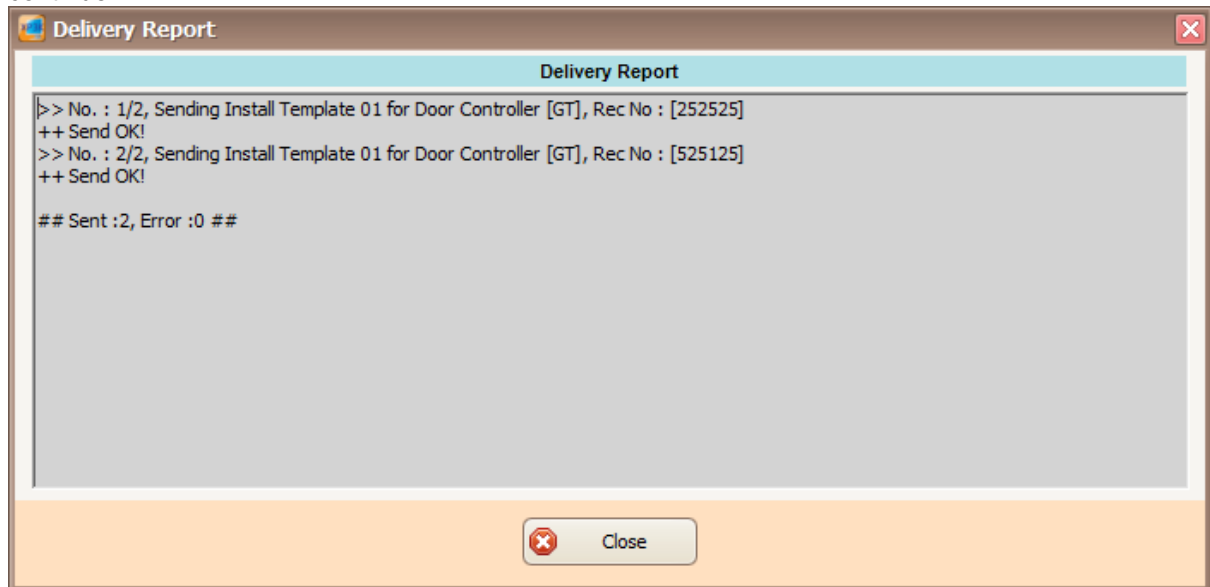

Figure 252 - Delivery Report to Install Template
3. A Delivery Report window will be shown to display the data (Refer **Figure 252**). Click Close to continue.